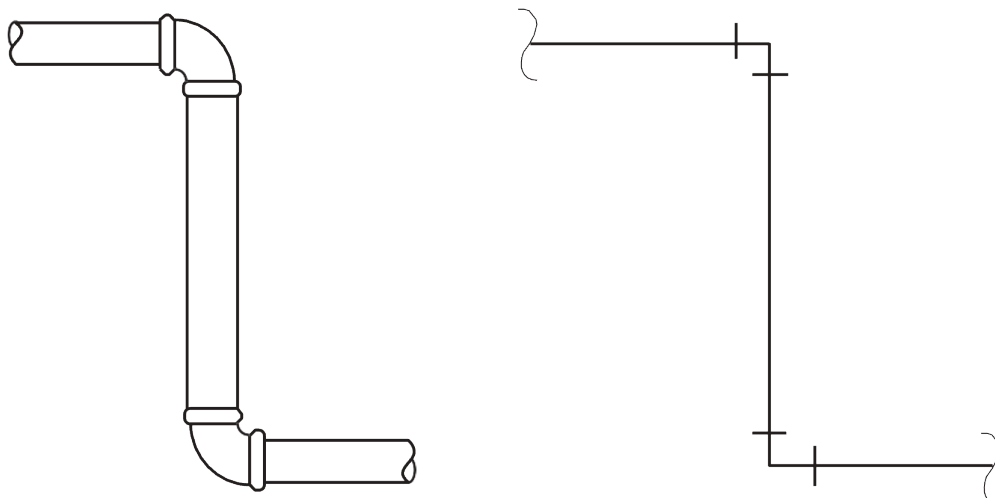

Figure 1 Double- and single-line drawings
- **Figure 1** Acropolis, Propylaea: reconstruction elevation from the west, by Mnesicles on Flickr is used under the CC BY-NC 2.0 license.
Piping systems are usually drawn with single-line symbols because they are quick and easy to draw yet convey a great deal of information. The single-line symbol represents the centre line of the pipe and fittings as seen from the side. Figure 1 shows the same piping run represented by double- and single-line symbols.